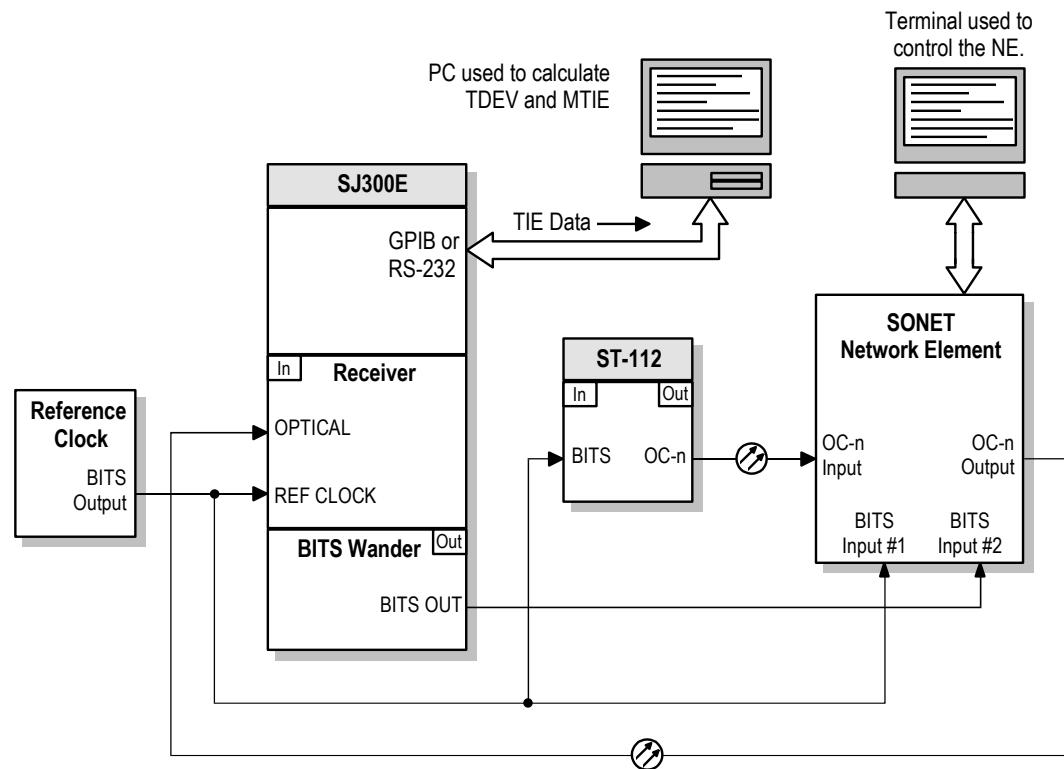

Figure 3-15 Using this configuration, the SJ300E can measure the phase transient generated by a SONET NE as the result of a synchronization reconfiguration.
Figure 3-15 shows how the SJ- 300 can be configured to measure the phase transients generated by a network element as it undergoes a timing input switch. In this configuration, the Wander Test section of the SJ300E is used simply to add a fixed 324 ns delay between the two BITS reference signals applied to the NE under test. No wander or noise jitter is added to the BITS signal. To execute the test, the SONET NE would be issued commands from a local terminal or Operations System (OS) to change its primary reference input from “BITS #1” to “BITS #2” or to “OC-n Input”. The resulting wander on the OC-n output of the NE is measured by the SJ300E.